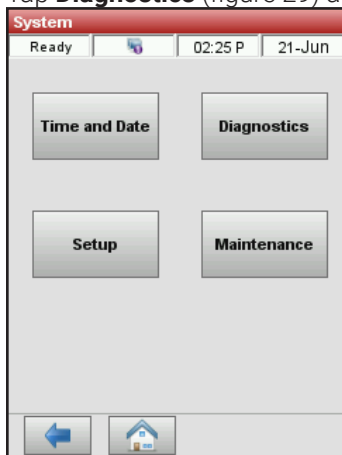
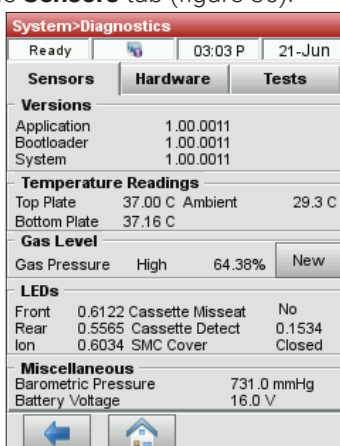

Figure 29. System Manager screen
Figure 30. System Manager> Diagnostics> Sensors tab
2. Tap **Diagnostics** (figure 29) and then tap the **Sensors** tab (figure 30).